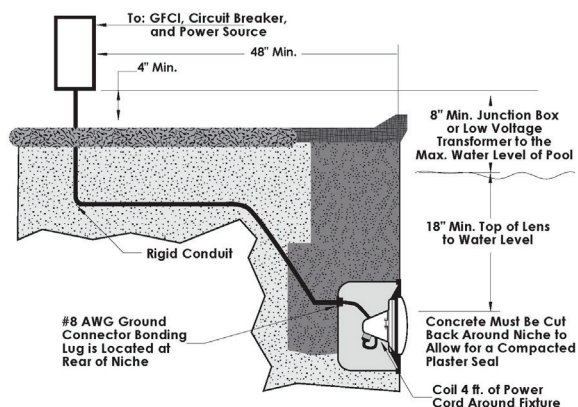

Figure 1.
- A junction box or low voltage transformer is located at least 8 inches above the maximum pool water level and at least 48 inches from the pool edge; reference Figure 1.
- Proper wet niche installation with the top edge of the underwater light's lens at least 18 inches below the surface of the water in the pool and not more than 20" in Canada; reference Figure 1.
- Proper electrical wet niche bonding and grounding using the #8 AWG ground connector at the rear of the niche; reference Figure 1.
1. Feed the fixture cord through the conduit to the junction box. Be sure to leave at least four (4) feet of cord at base of the fixture to coil around the light to ensure ease of servicing once the pool and/or spa is filled; reference Figure 1.
2. At the junction box, cut the cord. Be sure to leave at least six (6) inches of cord for making connections.
3. Carefully strip the outer cord jacket to expose six (6) inches of the underlying three insulated wires.
4. Connect these three (3) wires to their corresponding junction box circuit wires and secure the junction box cover in place.